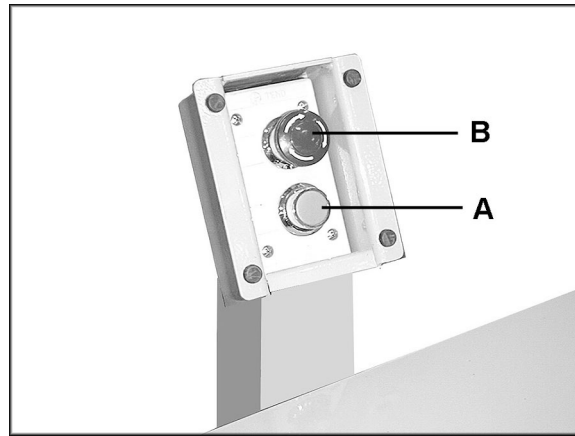

Figure 8
1. Connect machine to power source and press the start button (A, Figure 8).
2. The sanding belt should move left to right, as viewed from the front of the machine. If the sanding belt movement is incorrect, press the stop button (B, Figure 8) and disconnect machine from power.